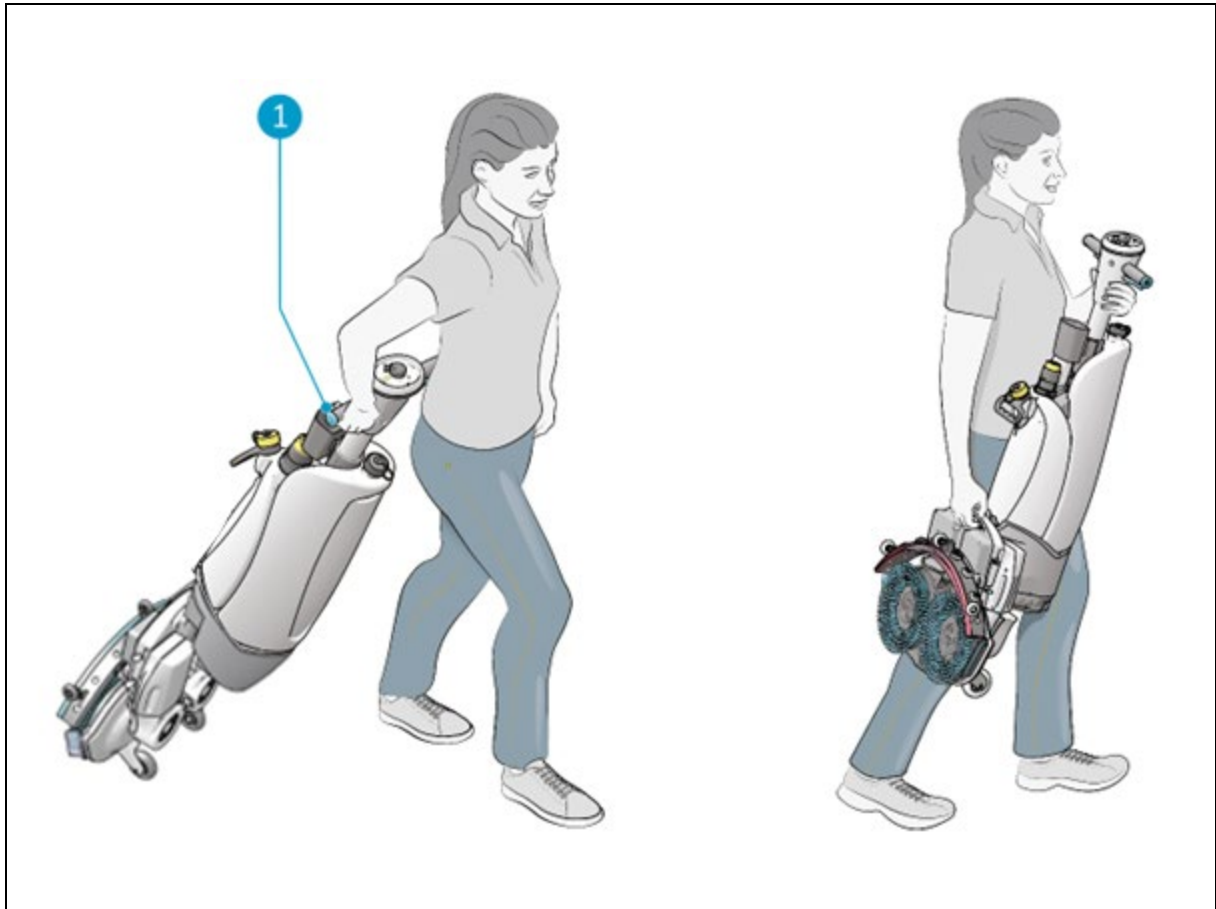

Figure 17
2. Hold the handle with one hand (Figure 17, pos 1).